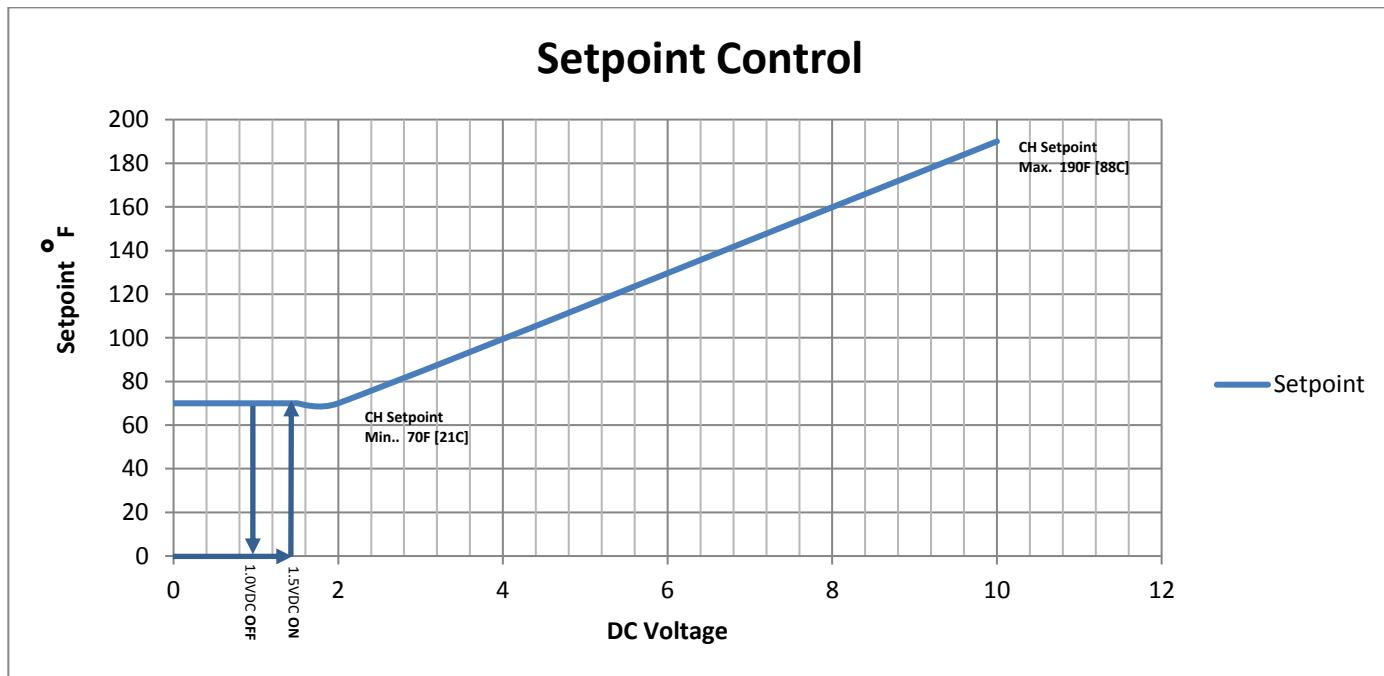

Figure 2
| Figure 2 | 5 |
- A heat demand will be generated by an input of 1.5VDC or greater. The setpoint calculation occurs between 2VDC and 10VDC. The heat demand is removed when the analog signal drops below 1VDC. See Figure 2.